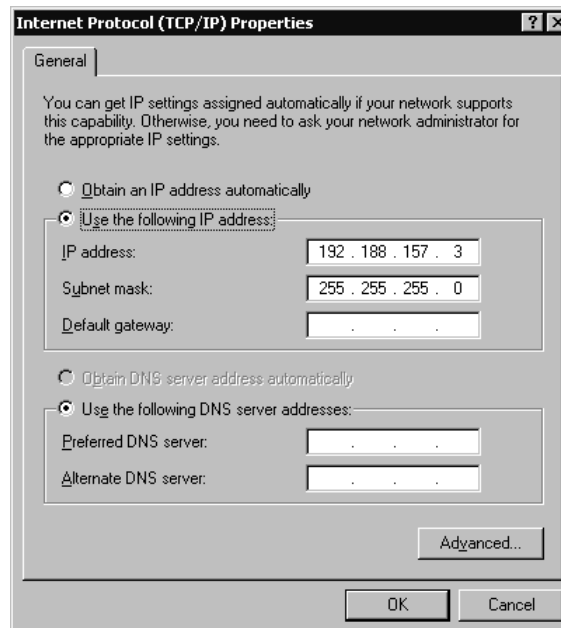

Figure 5-9. TCP/IP Properties
7. Enter an IP address and Subnet mask to be associated with this link on the server. This is the address a mainframe-based application will use to establish contact with the Windows 2000 server (Figure 5-9). The address must be in the same IP subnet as the address assigned to this link on the mainframe.